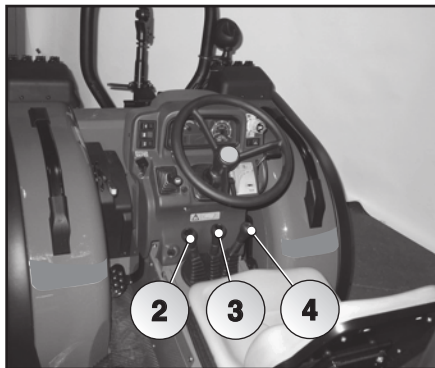

Fig. 5.4
- 1 - Position the three levers (2) (3) (4) (Fig. 5.4) Position the three levers.
- 2 - Manually raise the clutch pedal (1) and the brake pedal (6) (AR model) or brake pedals (5) (RS-RS/MT-DS model).
- 3 - Pull the lever (121) forward to release the seat.
- 4 - Raise the seat until the safety lock catches (122).
- 5 - Rotate the seat-dashboard unit counter-clockwise 180° to go from the normal operator position (road traffic) to the reverse operator position (Fig. 5.4); rotate clockwise to go from the reverse operator position to the normal operator position.
- 6 - Release the safety lock (122) and lower the seat again so that the lever (121) is reinserted into the locked position.
- 7 - Manually re-lower the clutch pedal (1) and the brake pedal (6) (AR model) or brake pedals (5) (RS-RS/MT-DS model).